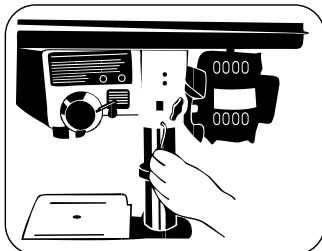

FIGURE 7.5
- Tighten the two sets of bolts found on the right side of the Spindle Head Set using the Allen Tool **0** (Figure 7.5).